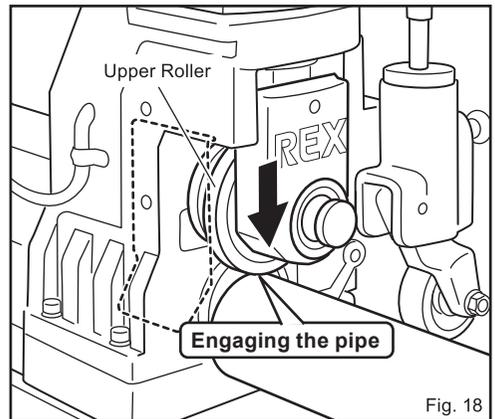

Fig. 18
2. Adjusting the position of the upper roller (Fig. 18)